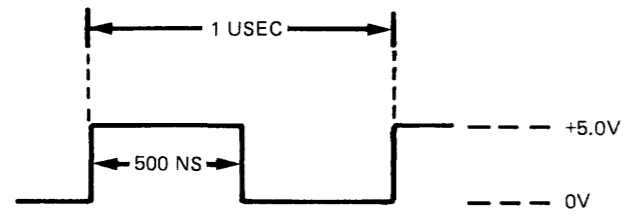

Figure 5-5. Filter Width Adjustment Waveform
- f. Adjust pulse generator to provide waveform with parameters as shown in figure 5-5.